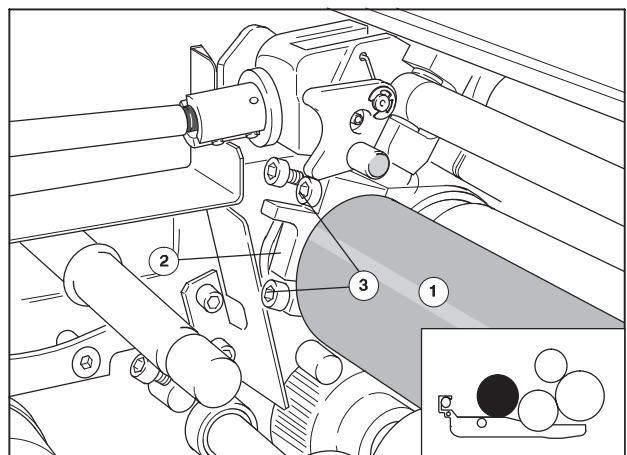

Fig. 32 Inserting the dampening roller
2. Insert the dampening roller (Fig. 32/1) with the ball bearings in the bearing shells on D.S. and O.S.
3. Place the bearing cap (Fig. 32/2) on the roller shaft; when placing, make sure that the correct caps are inserted on D.S. and O.S.
4. Screw the bearing cap to the bearing with the two Allen screws (Fig. 32/3).